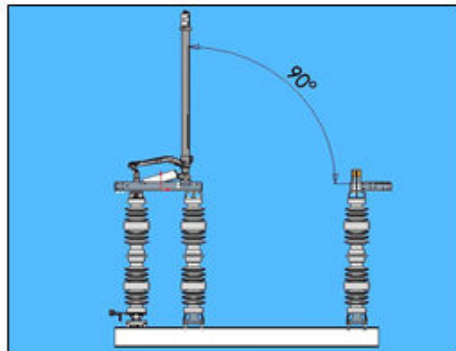
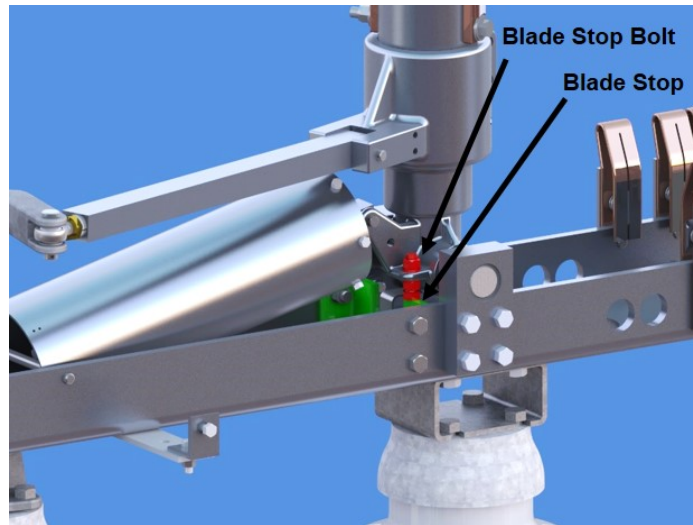

Figure 10: Proper Mounting Position
Figure 11: BLADE STOP (OPEN POSITION)
- 4.6. The Mounting Position and Proper Blade Opening are shown in **Figure 10**.
- 4.6.1. The EV-2H's conventional blade open position and angle is shown in **Figure 10**. Slight changes to the blade fully open angles are easily made in the field. Simply adjust the open position stop bolt on the blade carrier assembly shown in **Figure 11**, and then readjust the stop located at the bottom of the rotating insulator to match the blade angle.